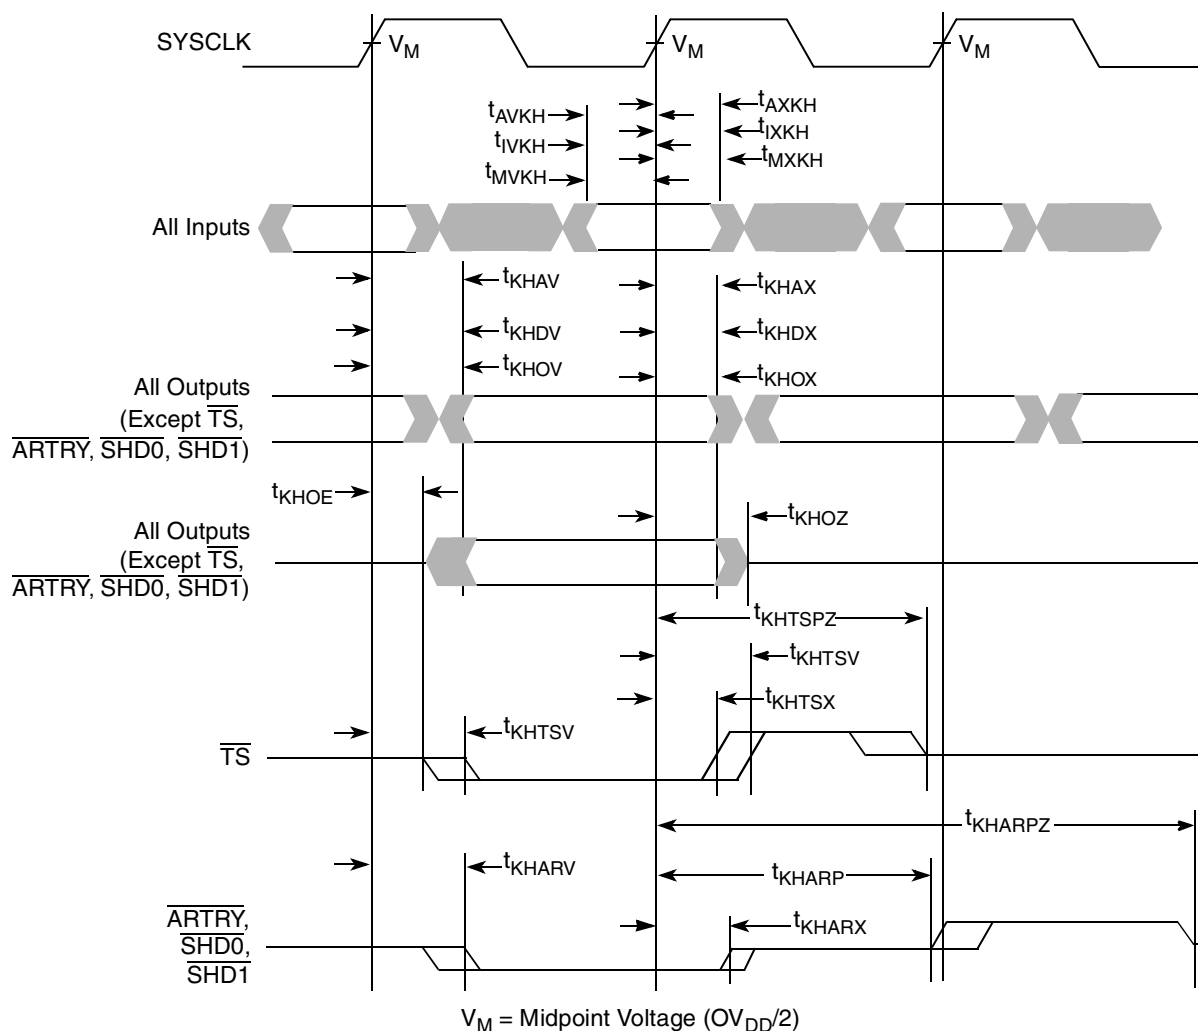

Figure 6. Input/Output Timing Diagram
2. The symbology used for timing specifications herein follows the pattern of $t_{(\text{signal})(\text{state})(\text{reference})(\text{state})}$ for inputs and $t_{(\text{reference})(\text{state})(\text{signal})(\text{state})}$ for outputs. For example, $t_{\text{V}(\text{K})\text{H}}$ symbolizes the time input signals (I) reach the valid state (V) relative to the SYSCLK reference (K) going to the high (H) state or input setup time. And $t_{\text{K}(\text{H})\text{O}(\text{V})}$ symbolizes the time from SYSCLK(K) going high (H) until outputs (O) are valid (V) or output valid time. Input hold time can be read as the time that the input signal (I) went invalid (X) with respect to the rising clock edge (KH) (note the position of the reference and its state for inputs) and output hold time can be read as the time from the rising edge (KH) until the output went invalid (OX).
4. According to the bus protocol, $\overline{\text{TS}}$ is driven only by the currently active bus master. It is asserted low and precharged high before returning to high impedance, as shown in Figure 6. The nominal precharge width for $\overline{\text{TS}}$ is $0.5 \times t_{\text{SYSCLK}}$, that is, less than the minimum t_{SYSCLK} period, to ensure that another master asserting $\overline{\text{TS}}$ on the following clock will not contend with the precharge. Output valid and output hold timing is tested for the signal asserted. Output valid time is tested for precharge. The high-impedance behavior is guaranteed by design.
6. According to the bus protocol, $\overline{\text{ARTRY}}$ can be driven by multiple bus masters through the clock period immediately following $\overline{\text{AACK}}$. Bus contention is not an issue because any master asserting $\overline{\text{ARTRY}}$ will be driving it low. Any master asserting it low in the first clock following $\overline{\text{AACK}}$ will then go to high impedance for 1 clock before precharging it high during the second cycle after the assertion of $\overline{\text{AACK}}$. The nominal precharge width for $\overline{\text{ARTRY}}$ is $1.0 t_{\text{SYSCLK}}$; that is, it should be high impedance as shown in Figure 6 before the first opportunity for another master to assert $\overline{\text{ARTRY}}$. Output valid and output hold timing is tested for the signal asserted. The high-impedance behavior is guaranteed by design.
Figure 6 provides the input/output timing diagram for the MPC7447A.